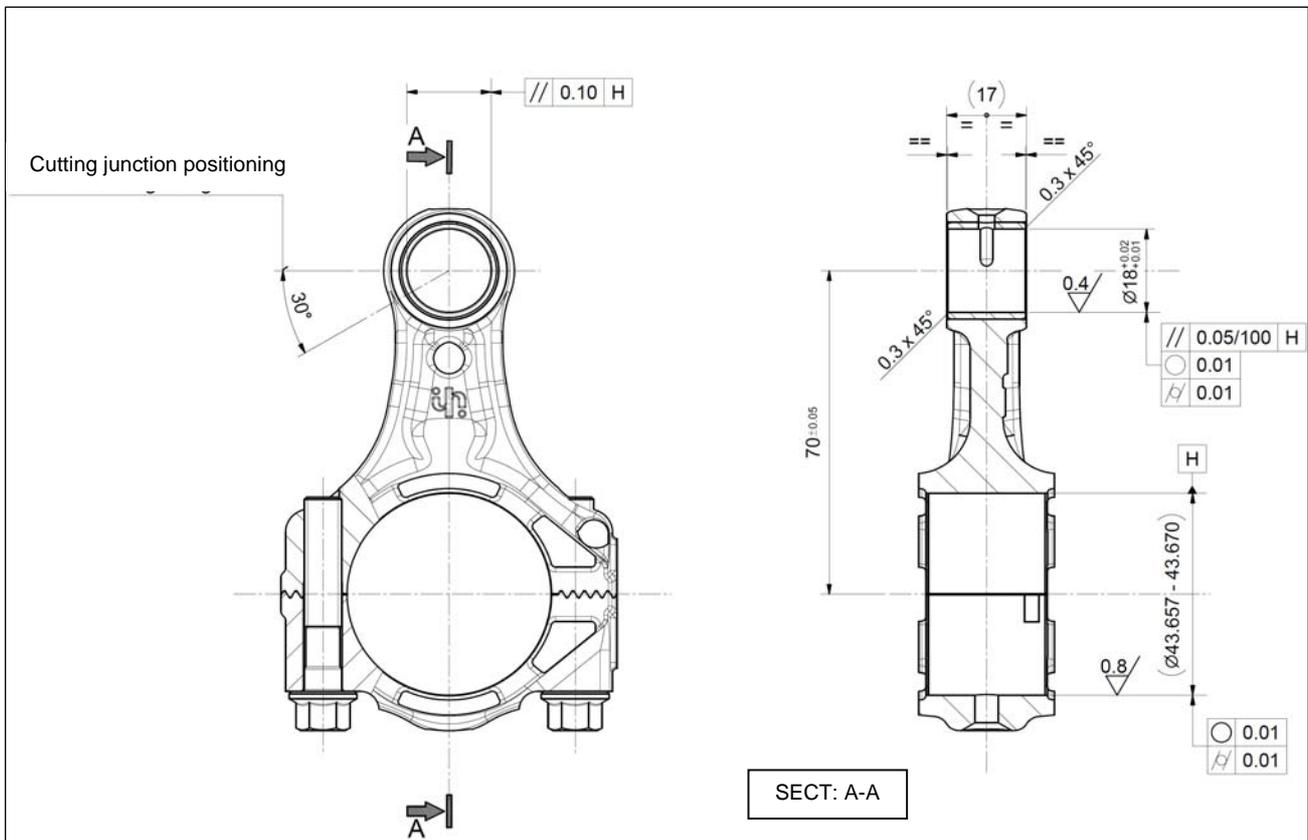

fig. 32
- the cutting junction is directed as shown in (fig. 32).
Then perform mechanical processing. The dimensions and tolerances shown in (fig. 32) **MUST** be respected.